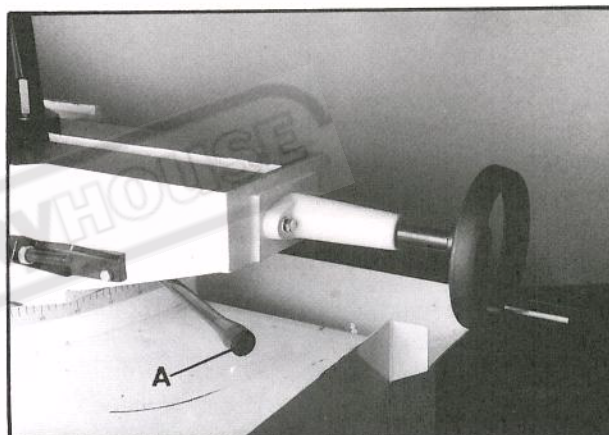

Fig. 12
2. Pull the handle (A, Fig. 12) toward the front of the saw.